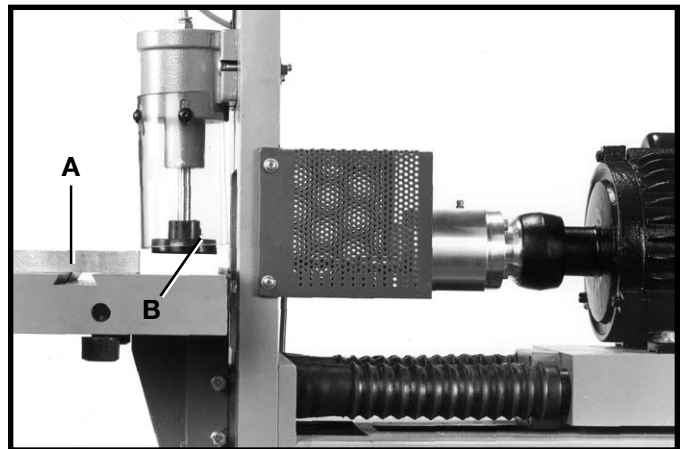
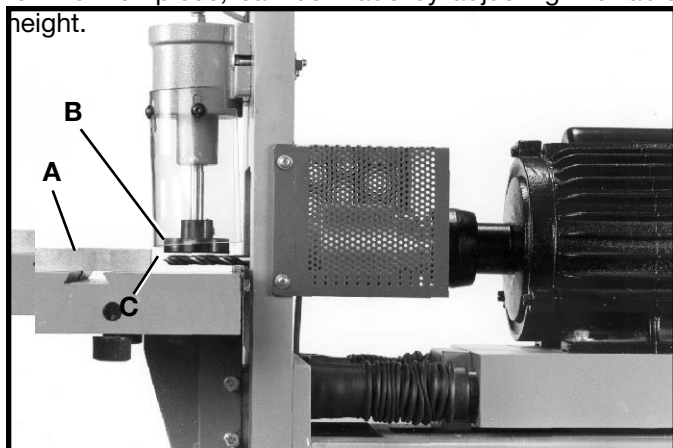

Fig. 27
Fig. 28
2. Place workpiece (A) Fig. 27, on the table close to, but not under, the work holddown (B).
3. Depress foot pedal halfway until work holddown (A) Fig. 27, is lowered as far as it will go. **IMPORTANT:** When set correctly, the work holddown (B) Fig. 28, should rest slightly below the surface of the workpiece (A) but not contacting the drill bits (C).